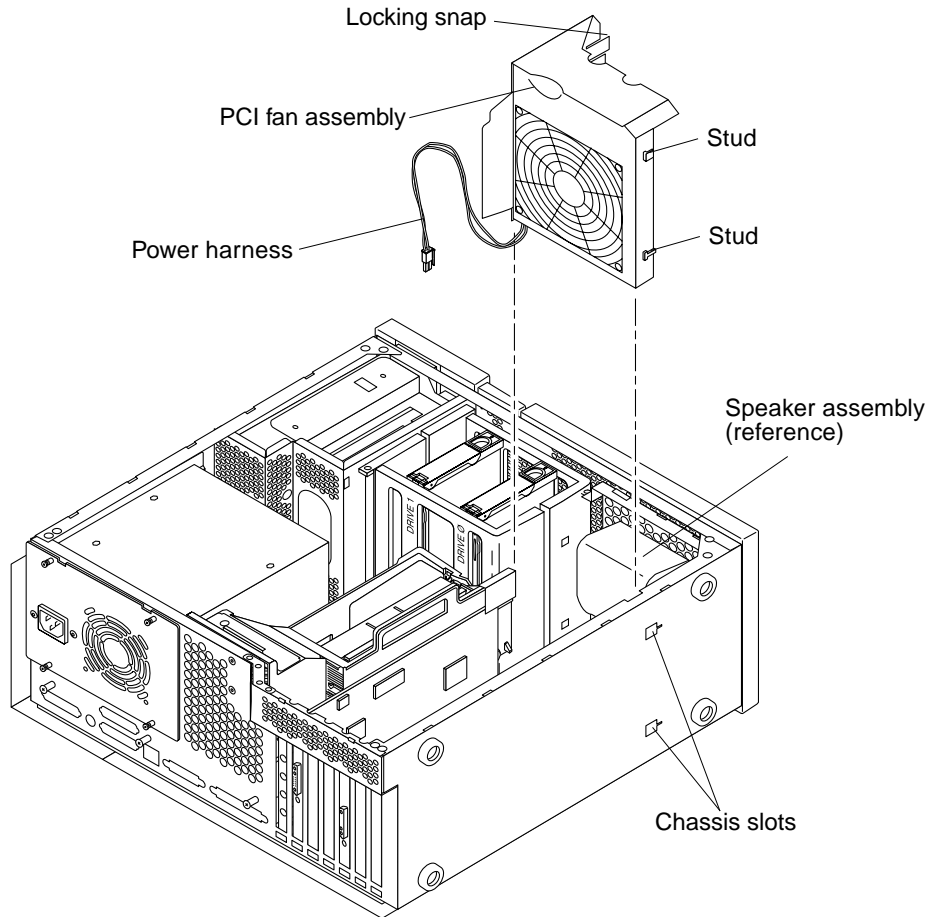

FIGURE 8-3 Removing and Replacing the PCI Fan Assembly
4. Disconnect the PCI fan assembly as follows (FIGURE 8-3):
1. Position the PCI fan over the speaker assembly (FIGURE 8-3).